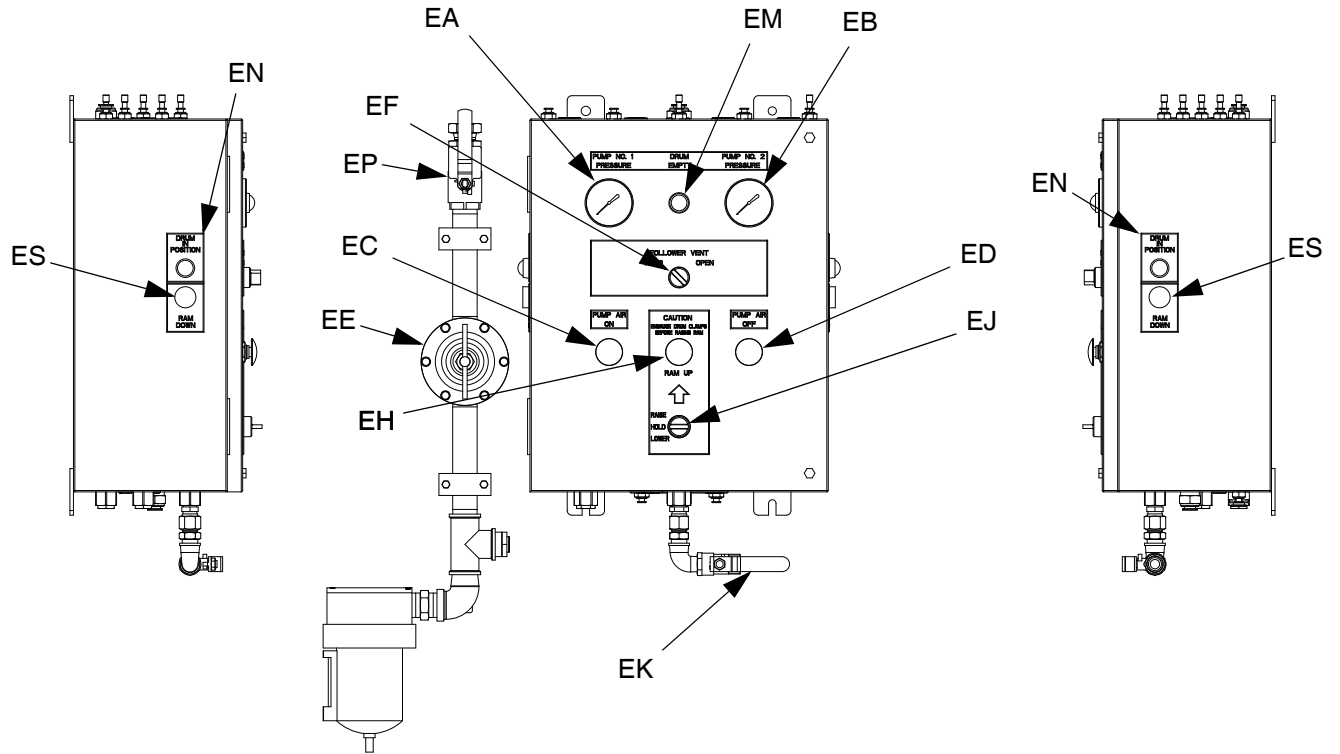

FIG. 8
Use the following table and FIG. 8 on page 21 when operating the switches and reading the indicators on the pneumatic layout panel.
4. Adjust main air regulator on the resin pump to 0 psi. See FIG. 8 on page 21.